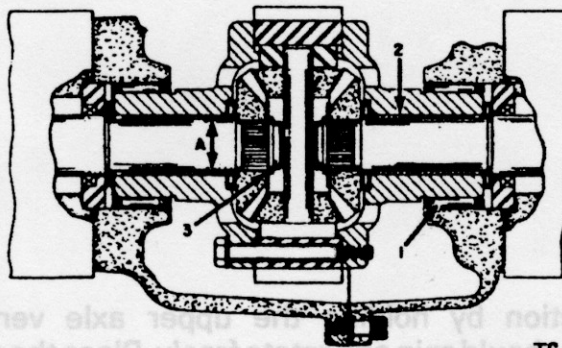

Figure 84
2. Examine the external bearing race (1) (Figure 84) on the differential carriers for wear or pitting. Replace if evident.
3. The differential carriers have internal bushings (2) (Figure 84). Replace if worn in excess of 0.878" I.D. (A) (Figure 84). See "Bearing and Bushing Service", page 13 of SECTION I.